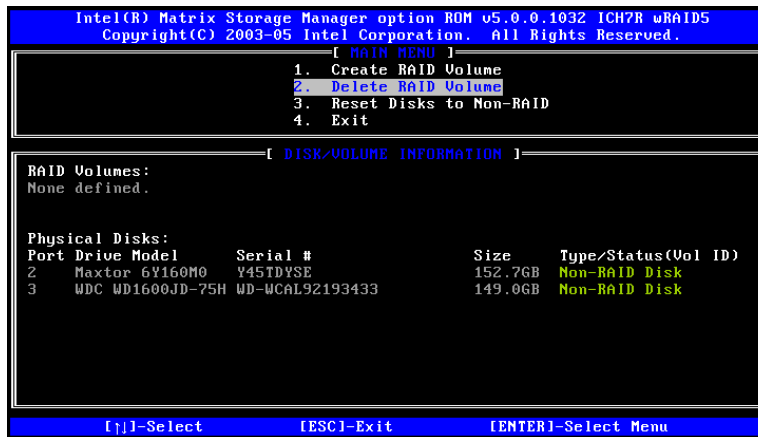

Figure G-11: Non-RAID Disks
Step 4: Non-RAID Disks. After deleting the RAID volume, the disks belonging to the volume will be shown as non-RAID disks. See **Figure G-11**.